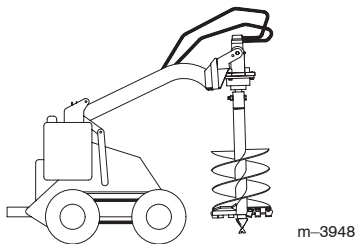

Figure 6
12. Raise the auger free of the ground (Fig. 6).
13. When the auger is vertical, tilt the attachment plate rearward, until the drive head contacts the attachment plate to stabilize the auger and keep it from swinging freely (Fig. 6).